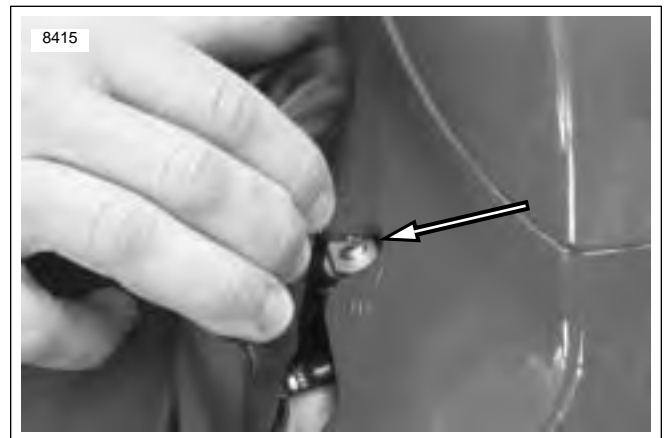

Figure 1-34. Accessing Rear Shock Compression Adjuster
2. See Figure 1-34. In order to access the rear shock compression adjuster pull back the left rear corner of the rider seat.